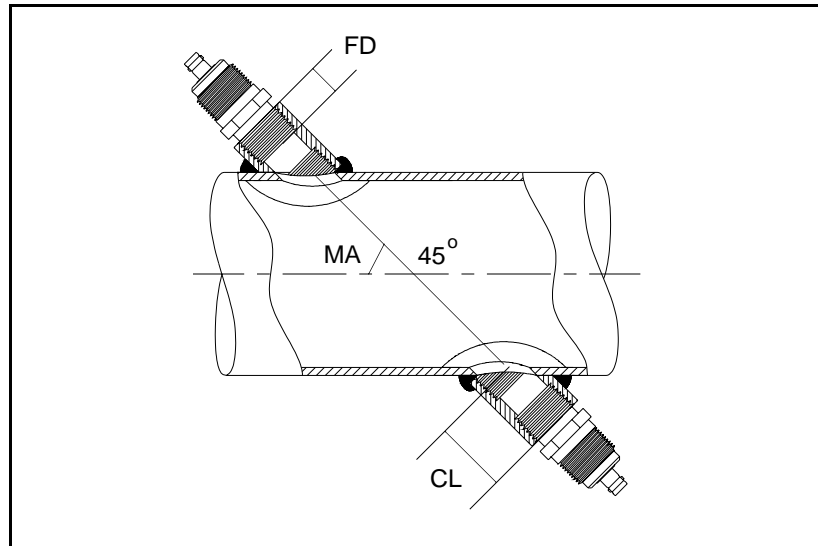

Figure D-2: Determining the Pipe Coupling Length
- the pipe inside diameter (ID)
- the wall thickness (WT)
- the installed pipe coupling length (CL)
- the transducer face depth (FD)
- the mounting angle (MA)
Measuring P and L (cont.) Use Figure D-2 below to properly measure the coupling length. Typically, the transducer face is positioned just outside the inside diameter (ID) of the pipe, or slightly retracted inside the coupling.